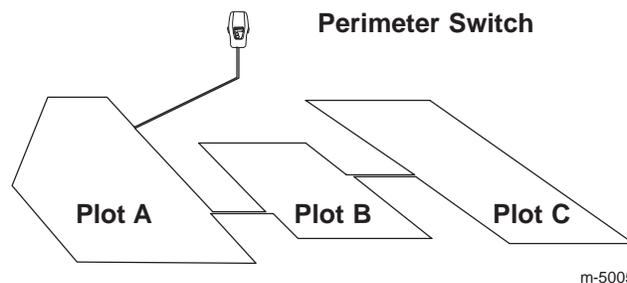

Figure 5
- One Perimeter Switch Location—Splice two wires with a wire connector to connect one mowing plot to another to form a continuous loop that terminates at one perimeter switch location (Fig. 5).